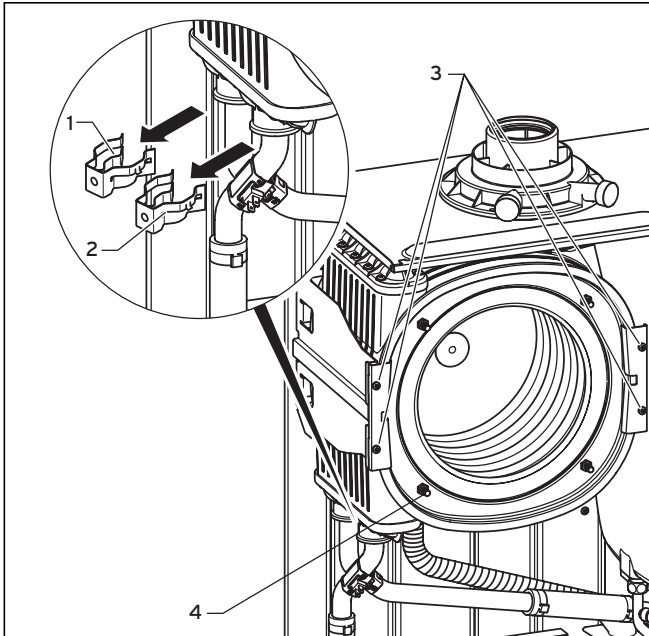

Fig. 9.5 Replacing primary heat exchanger
**Risk of damaging the primary heat exchanger! Neither loosen nor retighten the four screws (Fig. 9.5, Pos. 4).**
**Insert the seal rings for the flow and return pipe on the primary heat exchanger with a suitable lubricant. Insert the flow and return connection in the primary heat exchanger as far as they will go and make sure the clamps are fitted correctly on the flow and return pipe (see fig. 9.5).**